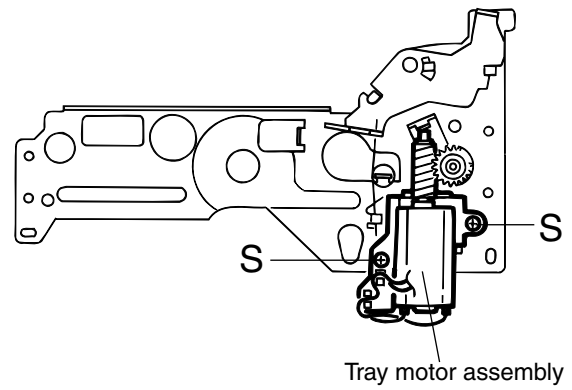

Fig. 27
■ Tray motor (See Fig.27 and 28)